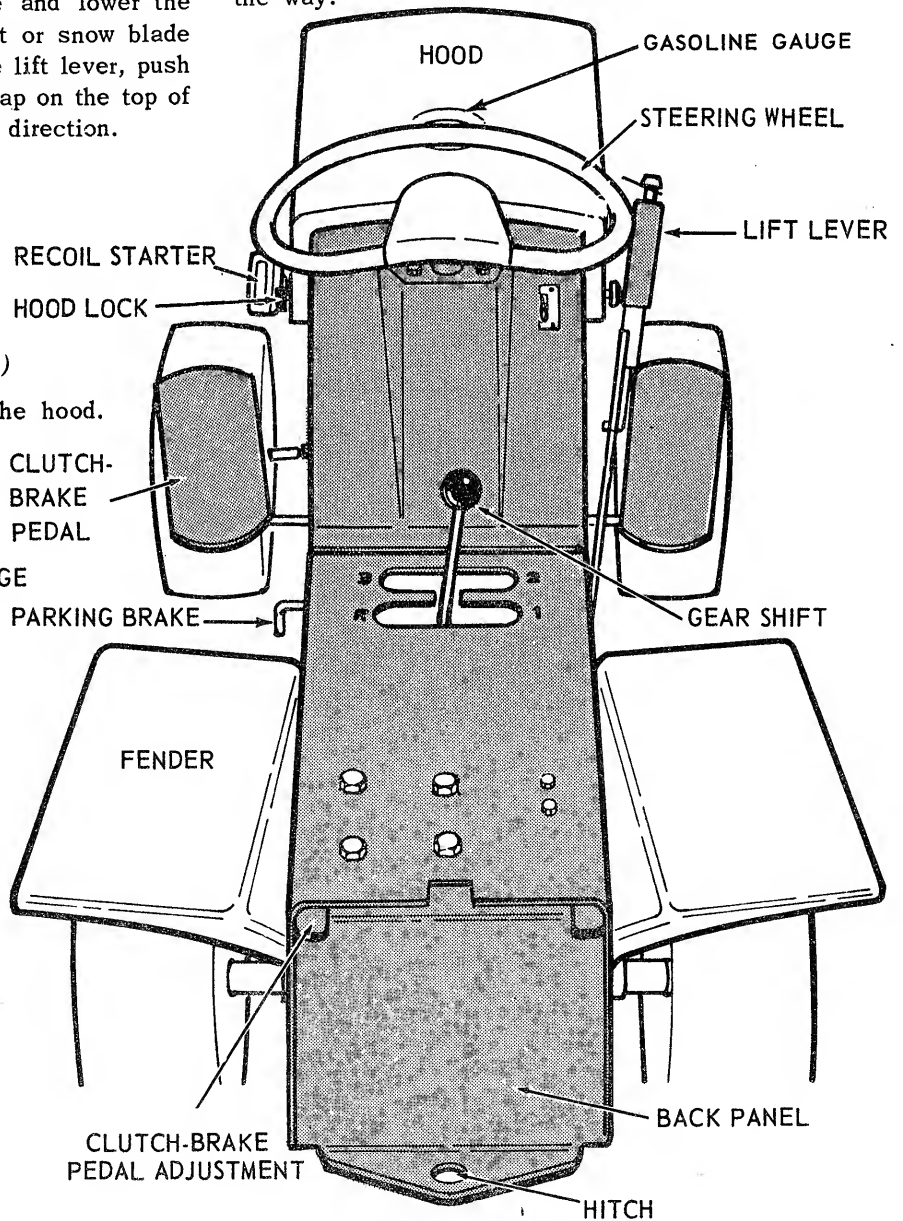

FIGURE 1
## INSTRUCTIONS (Refer to Fig. 1)
(Refer to Fig. 1)
**LIFT LEVER** (Refer to Fig. 1)
## TANK (Refer to Fig. 1)
## PARKING BRAKE (Refer to Fig. 1)
## CLUTCH (Refer to Fig. 1)
## BRAKE (Refer to Fig. 1)